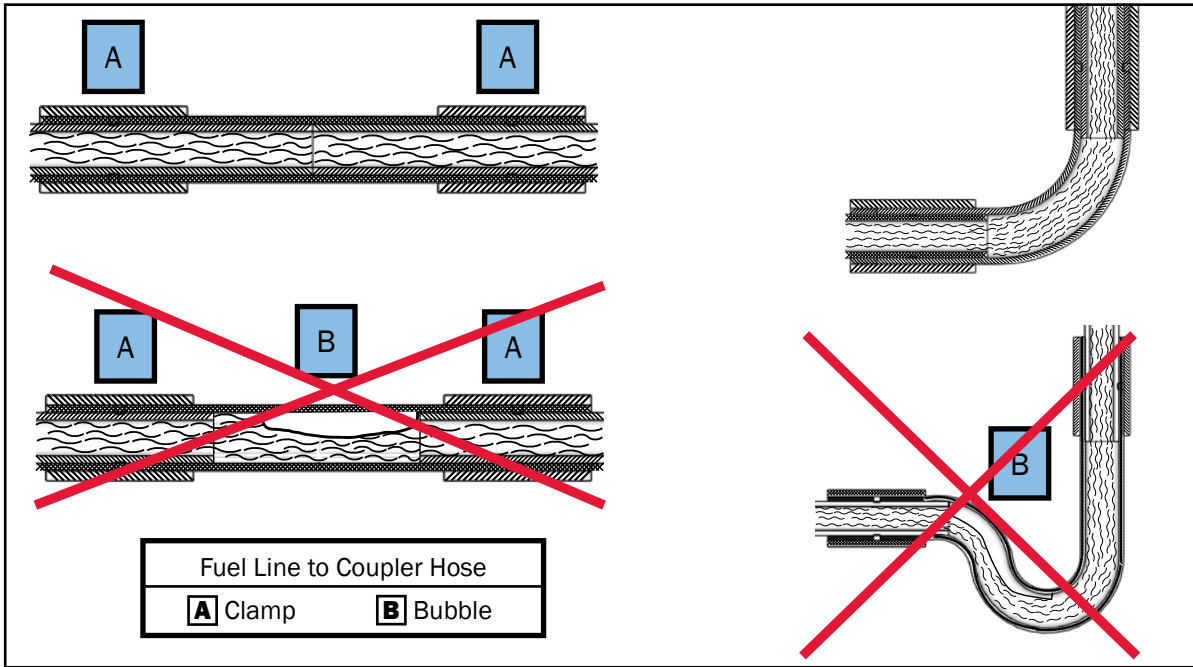

Figure 92
- Use the provided 5mm x 1mm fuel line with the included couplers and clamps. Reference Figure 92.